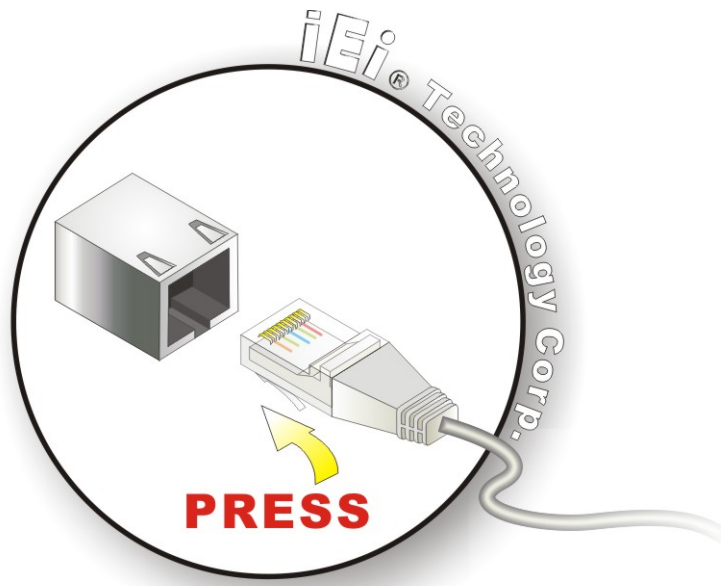

Figure 5-19: LAN Connection
Step 2: Align the connectors. Align the RJ-45 connector on the LAN cable with one of the RJ-45 connectors on the IMBA-XQ354. See **Figure 5-19**.